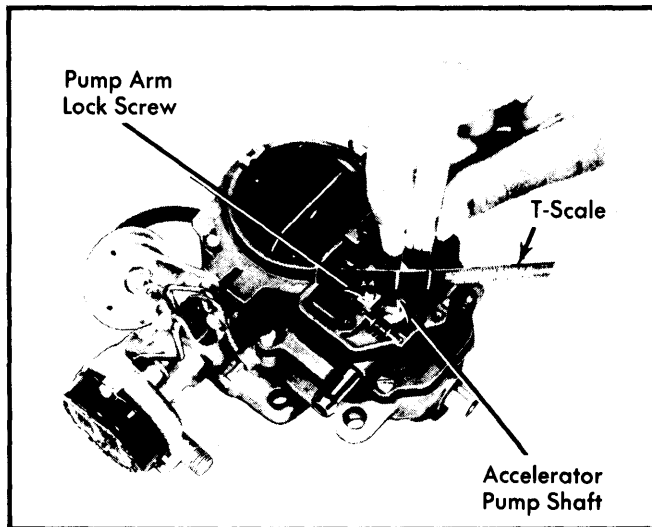

Fig. 5 Adjusting Accelerator Pump Stroke
1) Remove step-up piston cover plate and gasket. Back off curb idle speed screw until throttle valves are seated. Count number of turns required to seat throttle valves. Fast idle cam must be in open choke position. See Fig. 5.
2) Now turn curb idle screw clockwise until it just touches stop. Continue (2) more complete turns.